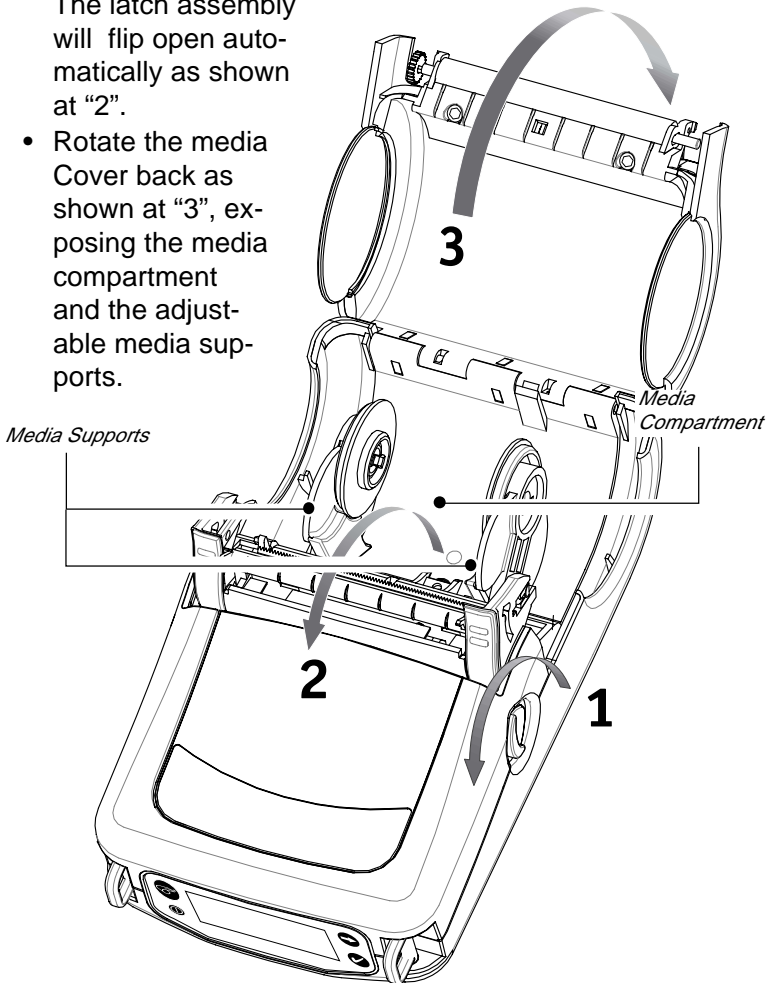

FIGURE 4
1. Open the printer: Refer to Figure 4.